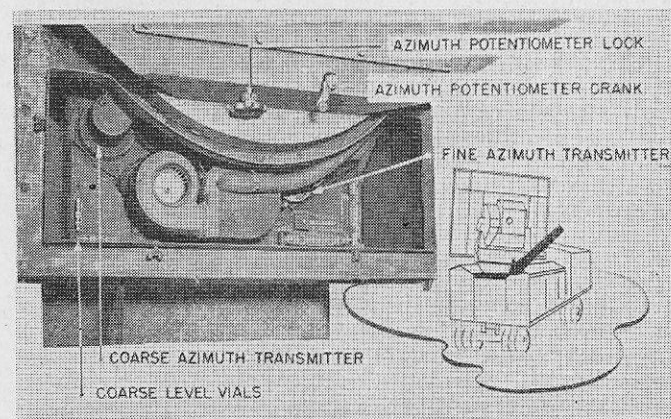

FIGURE 47.—Hatch at rear of trailer roof.
(3) The hatch cover at the rear of the trailer roof is now removed to expose the azimuth synchronous transmitters shown in figure 47.
(4) Using the wrenches chained beside them, the coarse and fine transmitters are loosened so that they can be ro-
(3) Remove the hatch cover at the rear of the trailer roof to expose the azimuth synchronous transmitters (fig. 47).
(4) Loosen and rotate the housings of the coarse and fine azimuth transmitters until the azimuth of the line connecting the SCR-545-A telescope and the orienting point is indicated exactly on the dials of the tracker of the director.